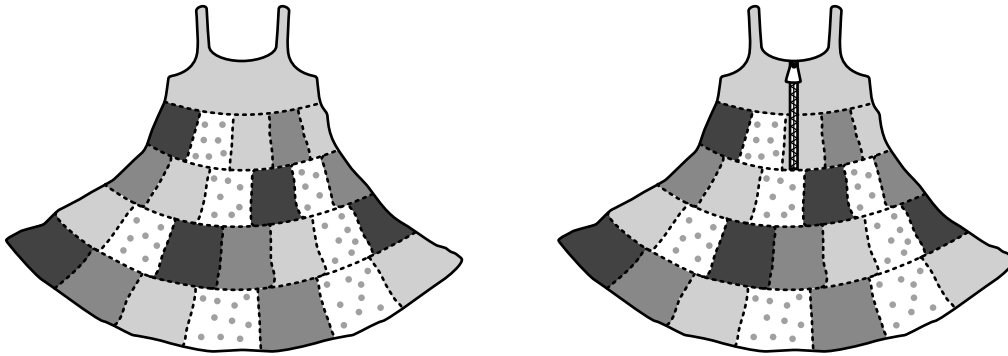

Fig. 4
5 Fig. 4 shows a dress made using a decorative technique.
- (c) The dress shown in Fig. 4 has a zip fastening.